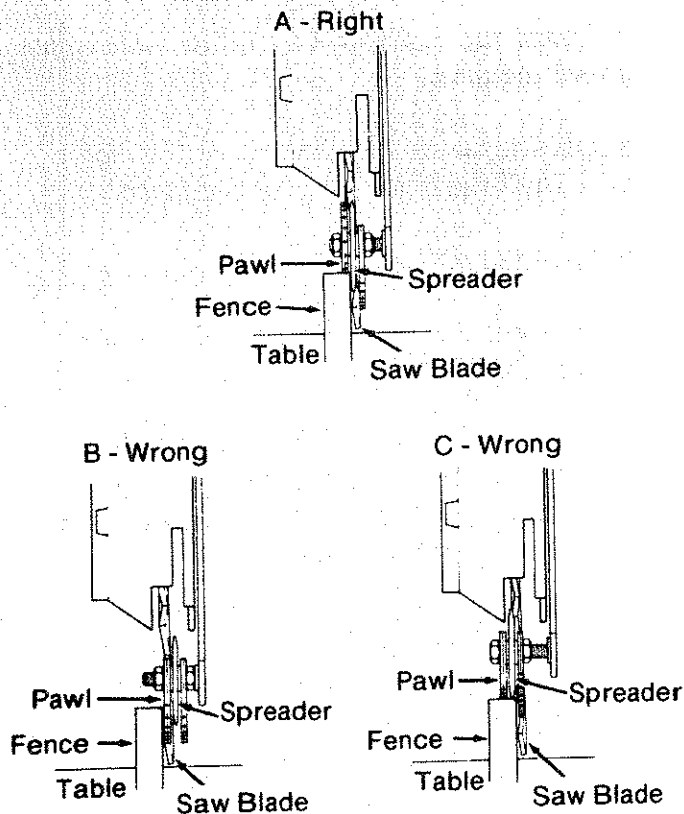

Fig. 77 - A, B, C
12. If the *spreader* and *blade* both rest against the *fence*, no adjustment is needed. (Figure 77-A) Go to step 17, or
If the *spreader* is in front of the *fence* but not touching it (Figure 77-B) go to step 13, or
If the *spreader* hits the top of the *fence* (Figure 77-C), go to step 13.